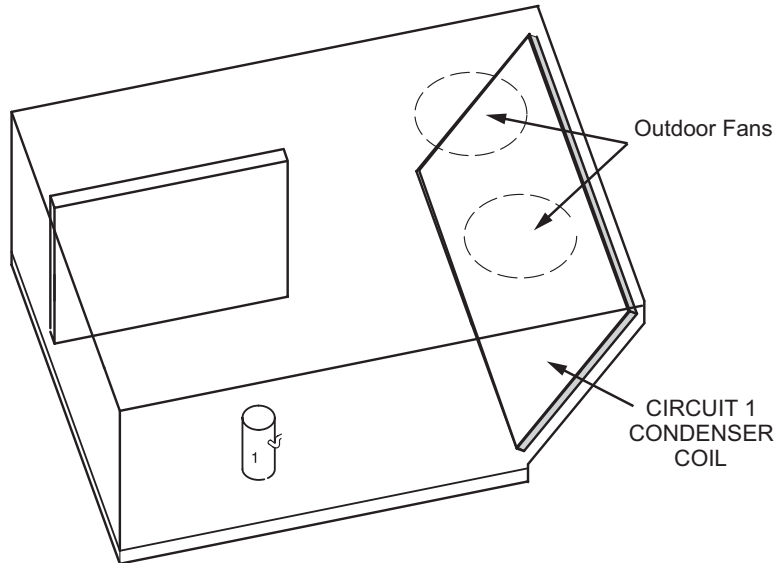

FIGURE 32
- 3 - SG/SC 036-060 units contain one refrigerant circuit and one stage of cooling. See FIGURE 32.